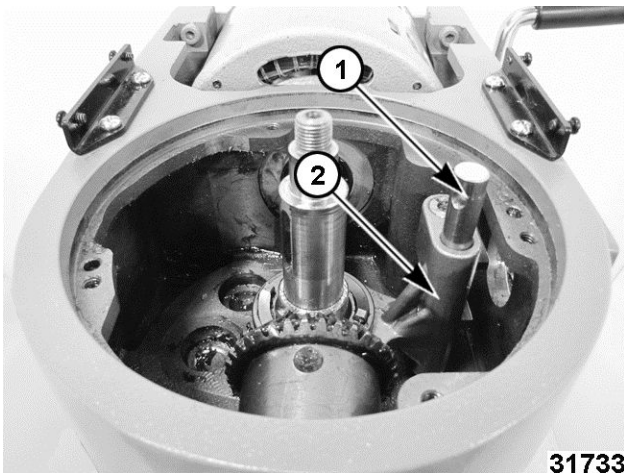

Fig. 27
18. Remove shifter rod (1, Fig. 27).
19. Remove yoke assembly and clutch sleeve (2, Fig. 27).